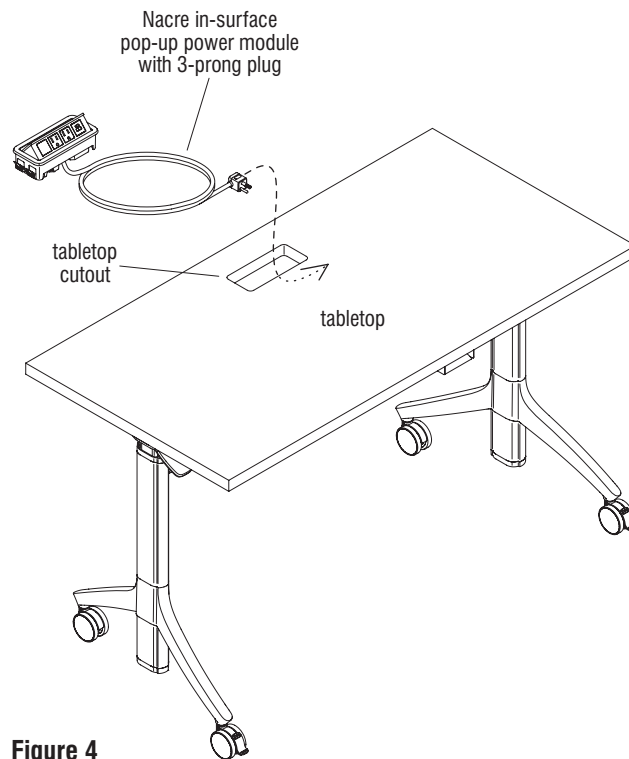

Figure 4
2. With the assembled table in the upright position, orient the Nacre in-surface pop-up power module as shown and route the plug end down through the tabletop cutout. Press the module down firmly into the cutout to secure in place, making sure the two clips on each side of the module catch under the cutout bottom edge of the tabletop (Figure 4 & Detail H).
1. Orient the Node in-surface power module consistently straight, as shown and route the plug end down through the tabletop cutout. Press the module down completely into the cutout assuring it is straight, and consistent with other tables, if being assembled (Figure 4 & Detail L).